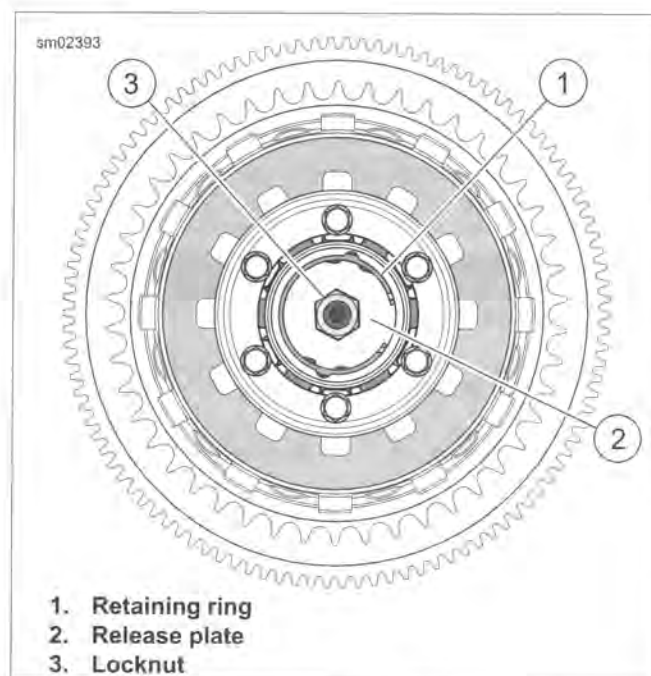
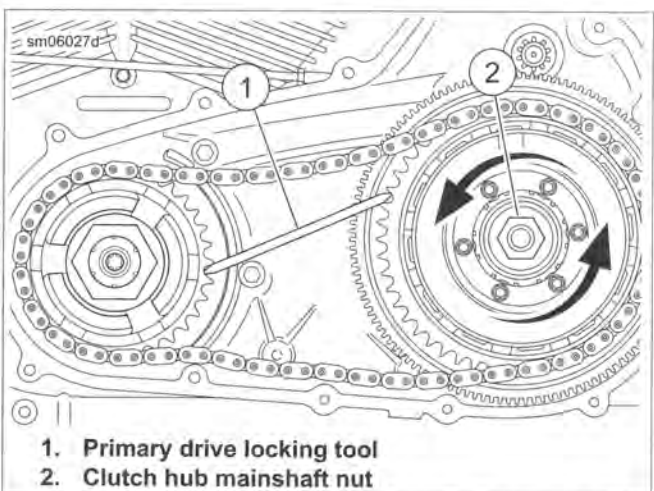

Figure 5-14. Clutch
Figure 5-13. Installing Clutch Hub Mainshaft Nut
- Tighten compensating sprocket bolt (1) to 100 ft-lbs (135.6 Nm).
- See Figure 5-13. Install the PRIMARY DRIVE LOCKING TOOL (Part No. HD-48219) between the teeth of the engine and clutch sprockets as shown.
- Tighten clutch hub mainshaft nut (2) to 70-80 ft-lbs (94.9-108.5 Nm). Remove primary drive locking tool.
- See Figure 5-14. Install release plate (2) with locknut (3) and adjuster screw into clutch hub bore. The word "OUT" stamped on the release plate faces out.